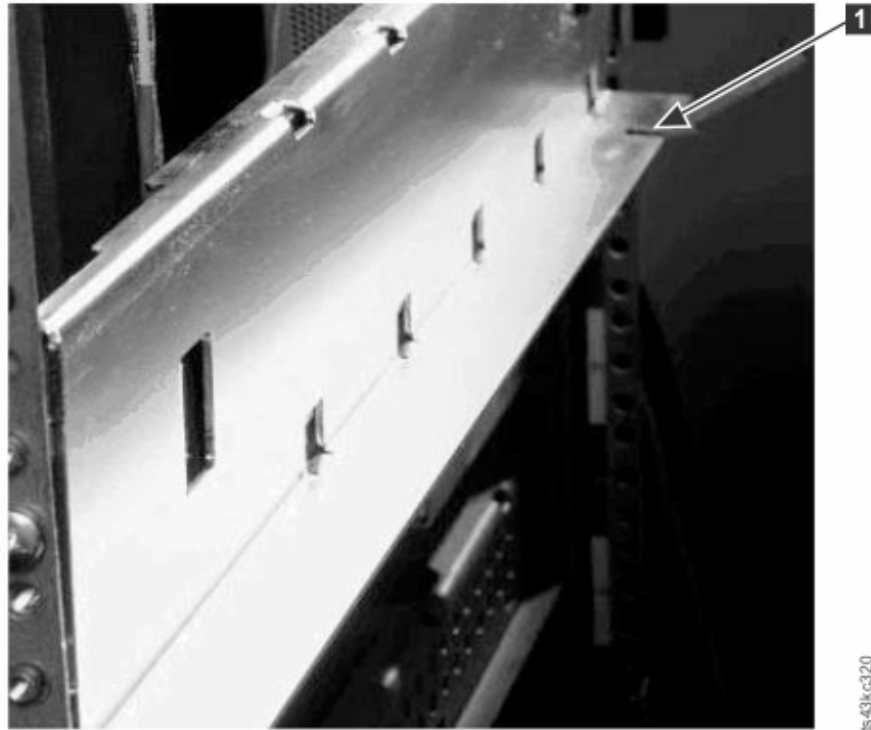

Figure 42. Hole for alignment pin
- a. Move the alignment lever of the upper of the pair of modules to the locked or engaged position. If you encounter resistance, adjust the position of the upper module so the pin in the alignment mechanism moves into the mating hole in the lower module. If you still encounter resistance, check to see if the rack rails are installed correctly. Check that the hole for the alignment pin is on the left rail (looking from the front) toward the back of the rack. See **1** in Figure 42 on page 48.